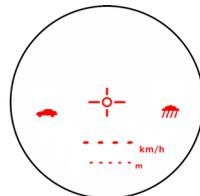

Figure 17
2. Press the  button until the Weather Mode indicator appears. The display should look similar to Figure 17.